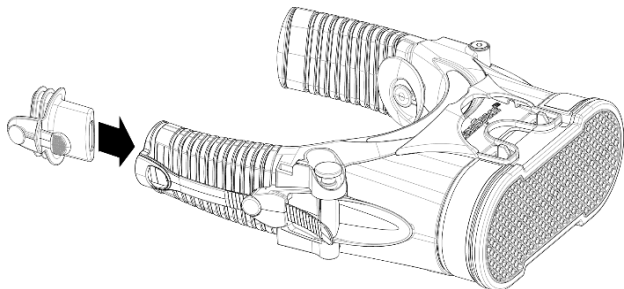

Figure 4 - Flow Test
- 2. Fit the yellow Flow Test Cap to the left bellow. See Figure 4.